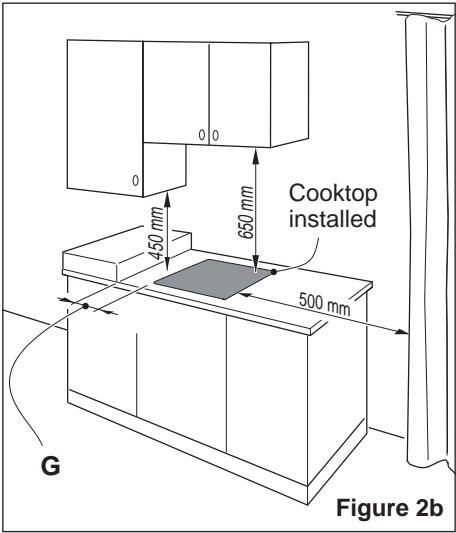

Figure 2b
- having the cooktop spaced away from the wall (see figures 2b, 2c);